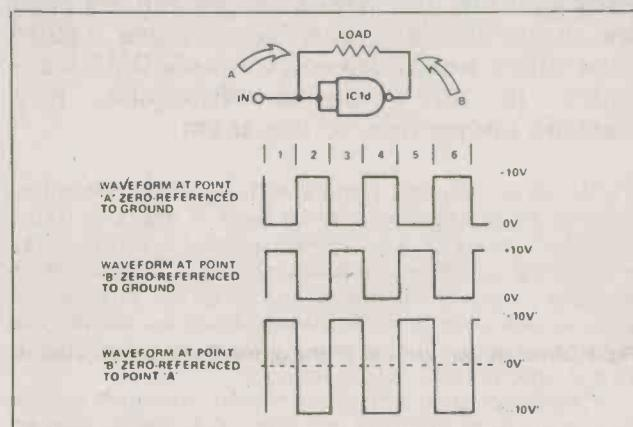
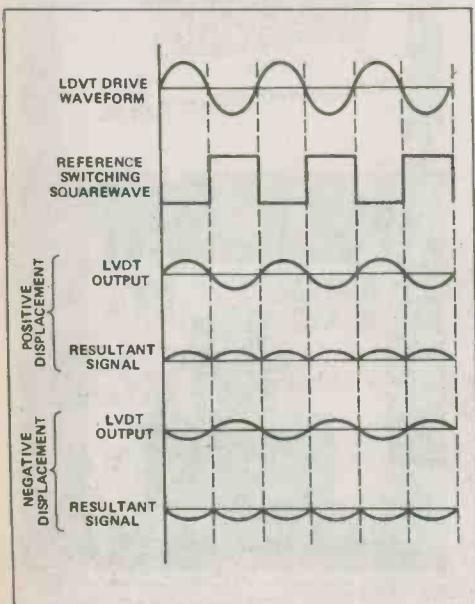
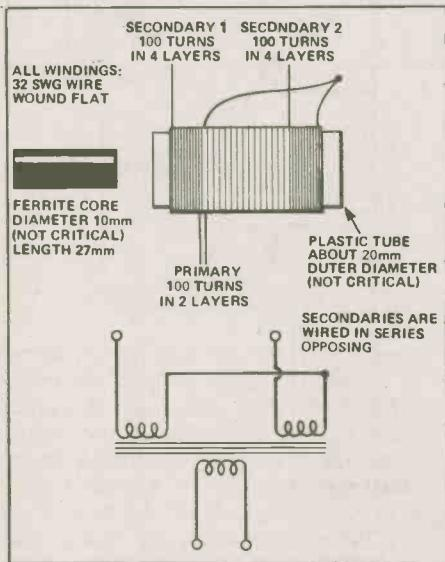

**Fig. 4** This version of the basic buzzer circuit uses bridge drive to the PB-2720 and produces an output that is four times louder than the Fig. 3 circuit.
Fig. 3 The output signals generated by the circuit.
Fig. 5 Coil winding details.
Figures 3 and 4 show two very inexpensive ways of driving the PB-2720 from a gated 4011B CMOS oscillator; both circuits generate a continuous-tone signal when they are enabled, are gated on by a high (logic 1) input signal, and can use any supply in the range 3 to 18V.
The Fig. 3 circuit calls for little explanation. IC1a-IC1b are wired as a gated 2 kHz astable, and IC1c is used to give single-ended buffered drive to the PB-2720. The circuit can be gated on electronically, or by PB1. The signal reaching the PB-2720 is thus an approximate square wave with a peak-to-peak amplitude roughly equal to the supply voltage: consequently, the RMS voltage across the load is roughly equal to 50% of the supply voltage.
**Fig. 3** This basic buzzer circuit is gated by a high (logic 1) input and generates a 2 kHz continuous tone. The PB-2720 drive is single-ended. Sound output (at 10 cm) is about 82 dB from a 10 V supply.
The Fig. 4 circuit is rather more difficult to understand. IC1c and IC1d are series-connected and used to give a 'bridge' drive to the transducer, in which antiphase signals are fed to the two sides of the PB-2720. The consequence of this cunning drive technique is that the load (the PB-2720) actually sees a square wave drive voltage that has a peak-to-peak value equal to twice the supply voltage and thus gives four times more acoustic power than the Fig. 3 circuit. The effective RMS voltage across the load of the Fig. 4 circuit is equal to the supply voltage. Mystified?
The solution to the action of the bridge-driven circuit of Fig. 4 can be understood with the aid of Fig. 5, which shows the waveforms applied to the load from a bridge circuit when it is fed with a 10V peak-to-peak square wave input signal. The important thing to grasp when
**Fig. 5** Waveforms applied to the load from a bridge circuit when it is fed with a 10 V peak-to-peak square wave input signal. Note that the first two waveforms are zero-referenced to ground, but the third waveform is zero-referenced to point A.
Now the load in the Fig. 5 circuit (irrespective of whether it is a simple resistor or a PB-2720) sees drive voltages purely with reference to one arbitrary side of itself. With this concept in mind, let's look at the drive voltage as seen by the load (the third waveform, the true voltage across the load), which assumes that the load is always seeing point A as its 'zero reference' point.
The dbx system can compress the signal for the recording process and expand it again so that a dynamic range of the order of 90 dB can be obtained. The noise from the dbx system is claimed to be appreciably below the ambient room noise, as shown in Figure 3.